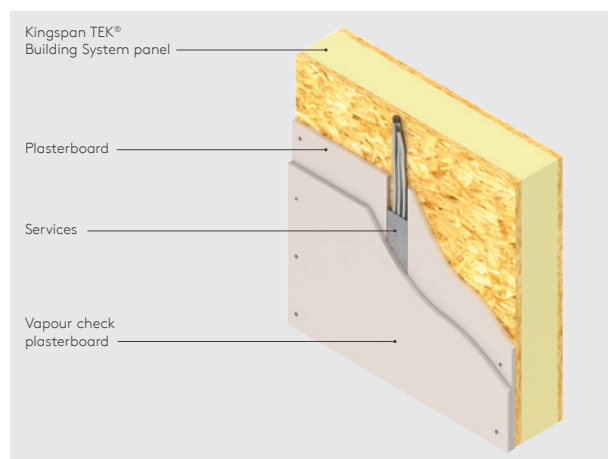

Figure 6
- a double layer of 12.5 mm plasterboard - the layer closest to the TEK® Building System panel should be chased out to create a cavity for services. The second layer should be 12.5 mm vapour check plasterboard (see Figure 6).